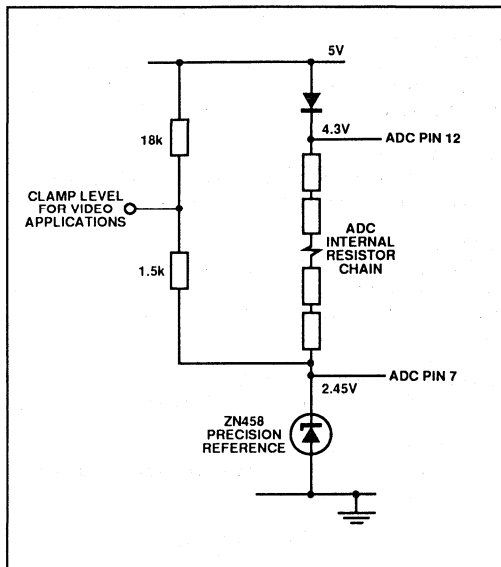

Fig.4 Simple reference voltage generation
**Voltage Reference Pins (Fig.4)**
The maximum value of  $V_{RT}$  is  $V_{CC}-0.7$  volts since values above this figure will start to saturate the comparator, resulting in noticeable distortion. Optimum performance from a +5 Volt power supply is obtained with  $V_{RT} < +4.3V$  and  $V_{RB}$  a further 2 volts below  $V_{RT}$ . In addition the  $V_{RT}$ ,  $V_{RB}$  and  $V_{RM}$  pins should be decoupled to ground close to the device pins using good quality 10nf capacitors. A simple method for providing the reference voltages is shown in Fig. 4, and further information may be found in applications note AN72. With a reference ladder voltage of less than 2V the reduced LSB size causes a larger differential linearity error. Operation of the device below 1.5V may therefore cause missing codes.